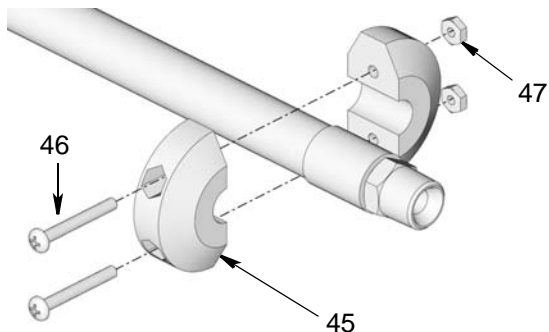

FIG. 70
Remove nuts (47), screws (46) and ball stop (45) from end of hose (FIG. 70). Cap end of hose (if needed) to prevent fluid spills.